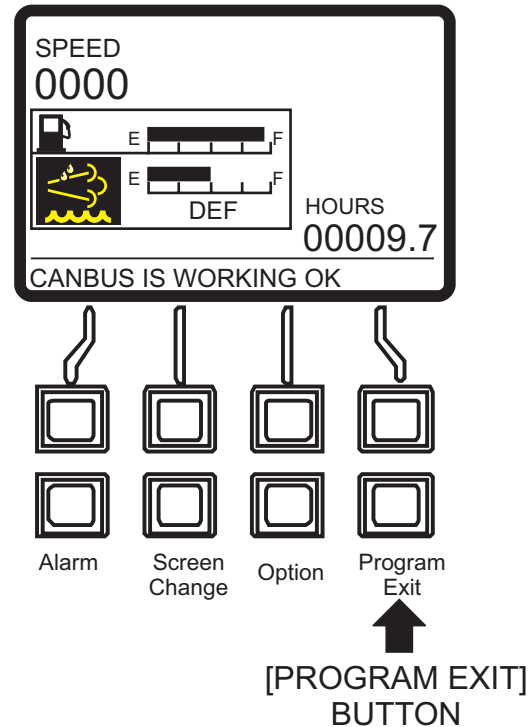

Figure 79. Main Screen
3. Next, press the **[Program/Exit]** button (Figure 79) to enter the Main Menu.